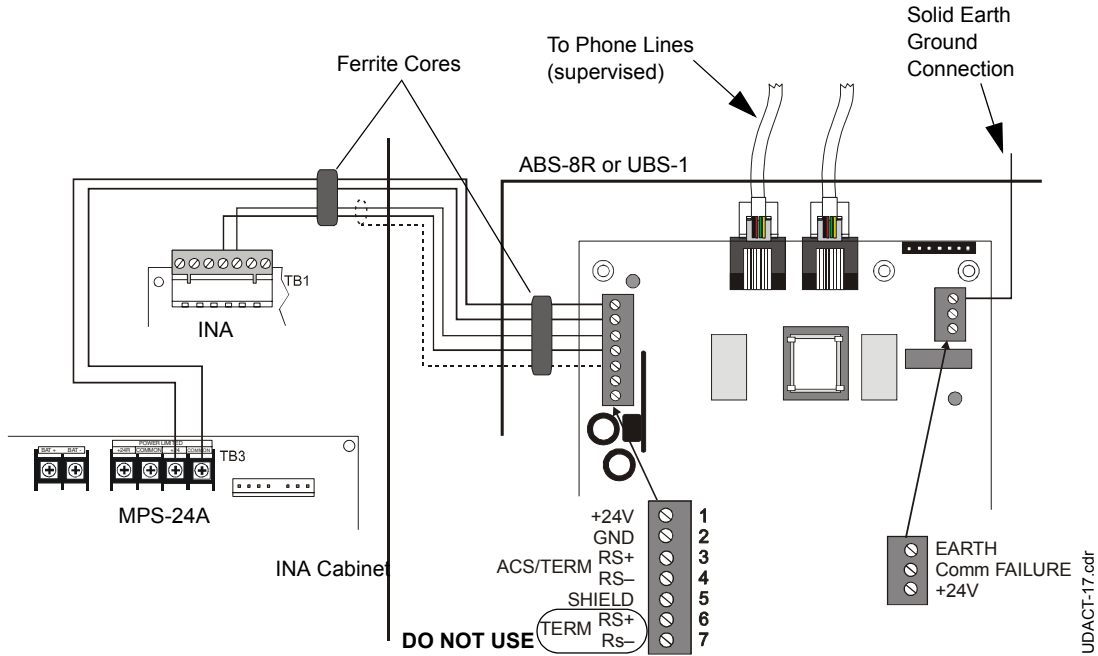
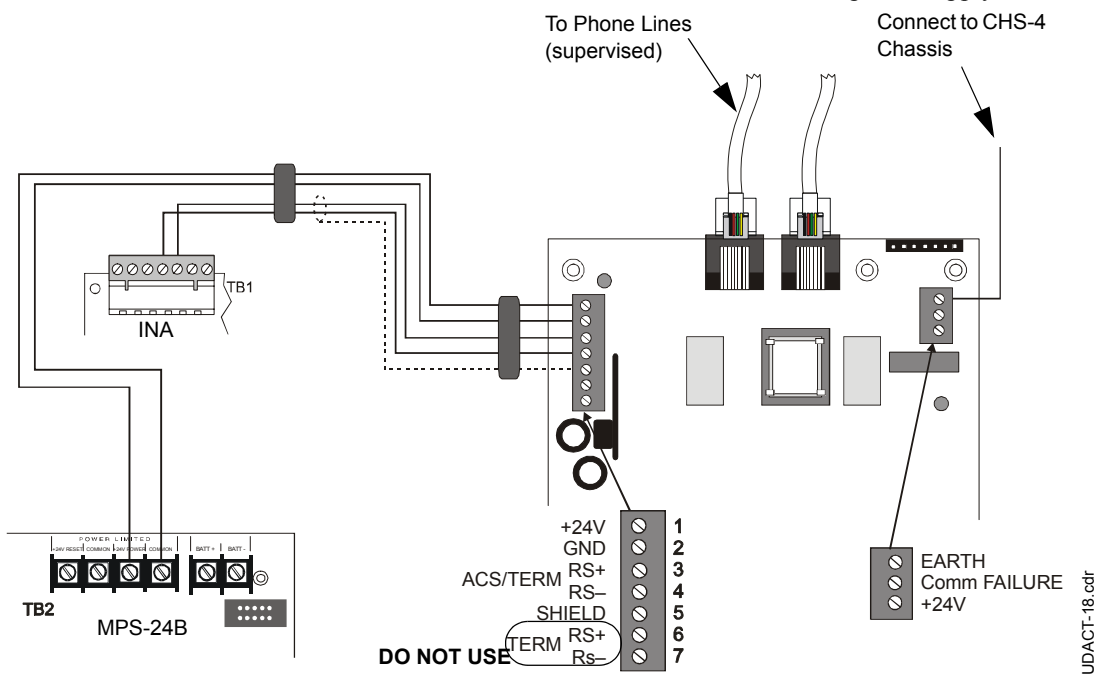

Figure 33 UDACT and INA with MPS-24A
Figure 34 UDACT and INA with MPS-24B
Refer to Figure 33 and Figure 34 on page 122.
2. Recommended wire is 12 AWG (3.25mm²) to 18 AWG (0.75mm²), twisted pair, shielded cable. Connect only one end of shield: a) shield may be connected to cabinet (earth ground) at fire alarm panel, or b) shield may be connected to TB1 Terminal 5 (Shield) at UDACT as shown in Figure 33